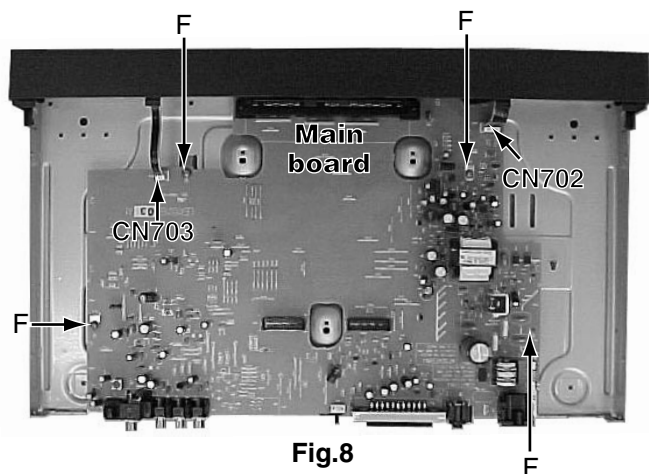

Fig.8
■ Removing the main board (see Fig.8)
■ Removing the motor assembly (See Fig.8 and 9)